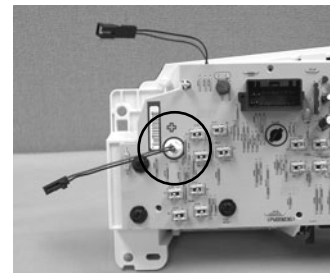

Figure 10 (2002 model year shown)
11. There are two lamp pig tail connectors included. Use the one that is labeled with the correct model year of the original cluster. For **1999-2000** model years, use the 2001-201 connector. For **2001-2003** model years, use the 2017-207 connector. Plug the new lamp pig tail connector into the indicated empty lamp socket as shown in figure 10.
CAUTION: For 1999-2000 model years, please note that the lamp pig tail connector **MUST** have the **red wire** side facing **down** towards the bottom of the cluster. For 2001-2003 model years, please note that the lamp pig tail connector **MUST** have the **red wire** side facing **up** towards the top of the cluster (See figure 10).